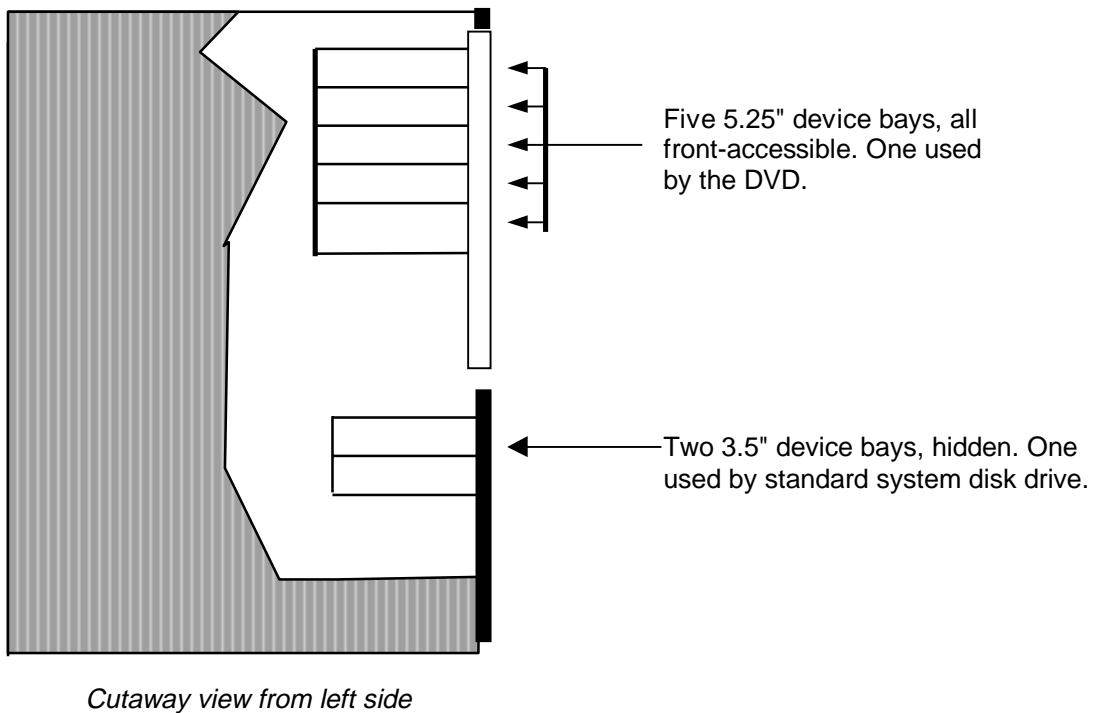

Figure 1. AM-8000 Series II in Desktide Chassis
The system is housed in a modern desktide enclosure, with plenty of room for future expansion. The AM-8000 Series II houses the standard DVD-RAM and first hard disk drives, and up to 6 additional 5.25"/3.5" peripherals. Figure 1, later in this document, shows the details.
- **Peripheral mounting**—The chassis accommodates up to nine peripheral devices. Figure 1 shows the details.